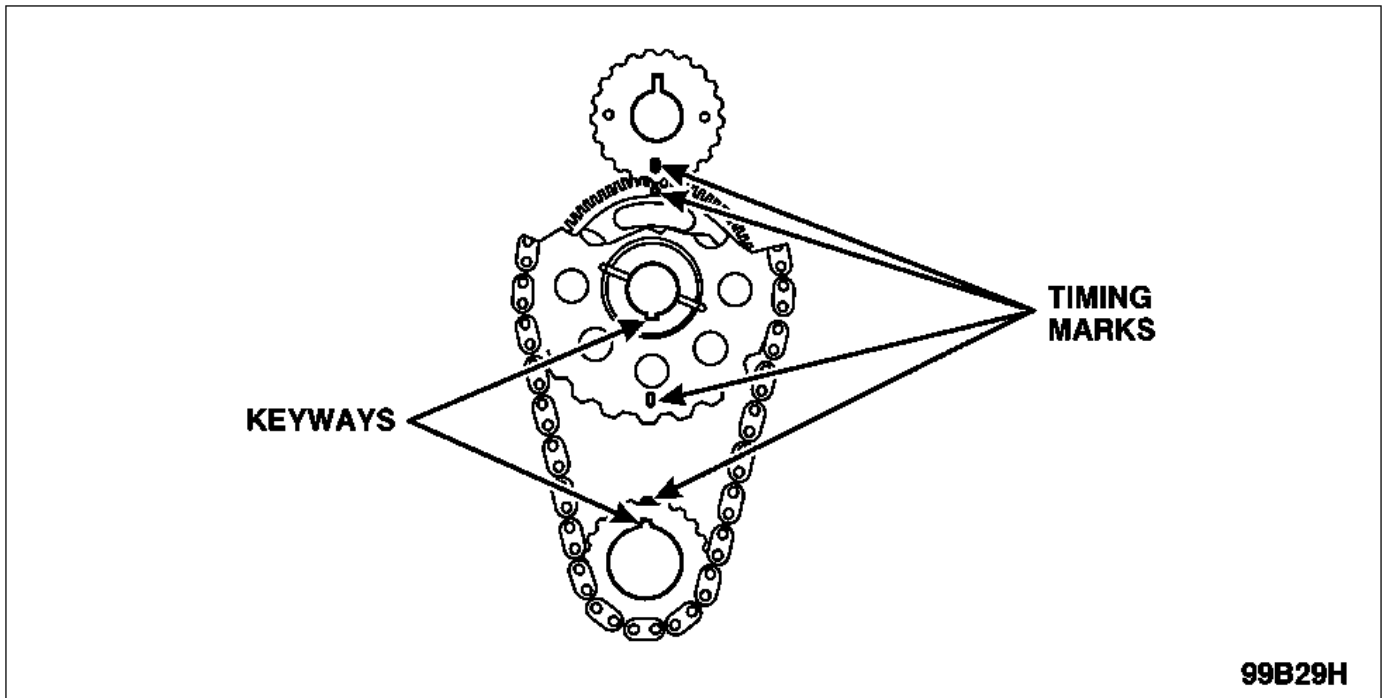

FIGURE 8
4. Make sure the timing marks and the keyways are aligned. See Figure 8.